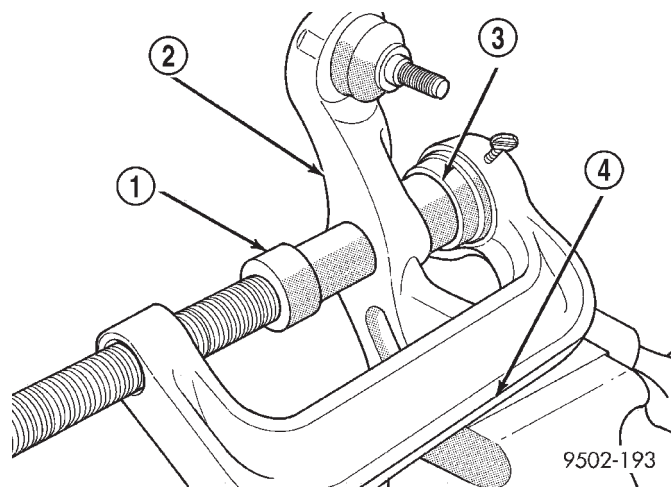

Fig. 86 Removing Clevis Bushing From Lower Control Arm
(2) Install Bushing Remover, Special Tool 6877 and Bushing Receiver, Special Tool 6876 on Special Tool C-4212-F.
(3) Install lower control arm on Special Tools assembled for removal of the clevis isolator bushing. Be sure Special Tool 6876 is square on lower control arm and Special Tool 6877 is positioned correctly on clevis bushing (Fig. 86).